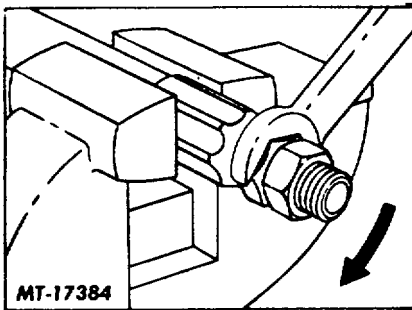

Fig. 5
8. Position hose socket in swivel nut and reassemble pipe adapter (if removed) to lock swivel nut on the fitting. Thread the fitting and swivel nut (with pipe adapter) assembly into the hose as shown in Fig. 5 leaving 1/32" to 1/16" clearance between nut and socket so that the nut can swivel freely.